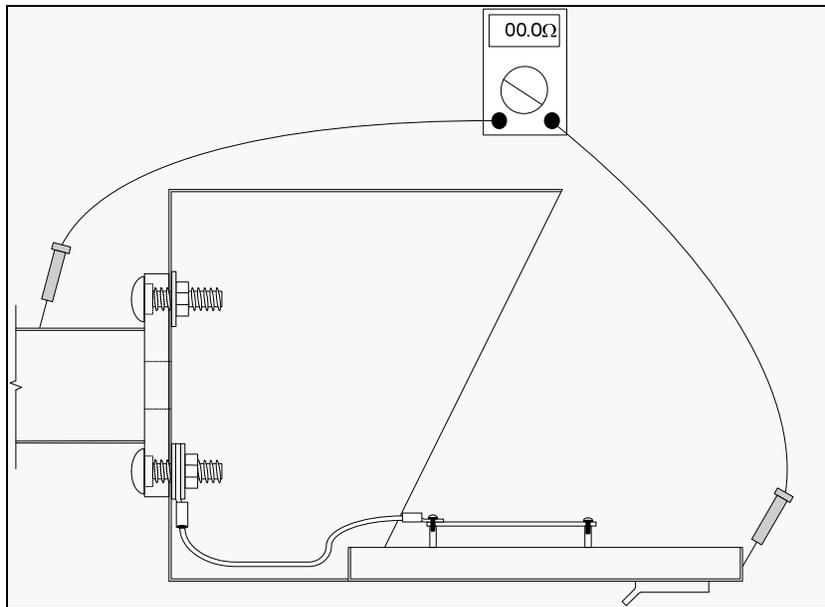

Figure 13 Continuity Testing - Enclosure to Faceplate
Step 2: Measure the resistance from the pedestal to the faceplate as shown in **Figure 13** below.